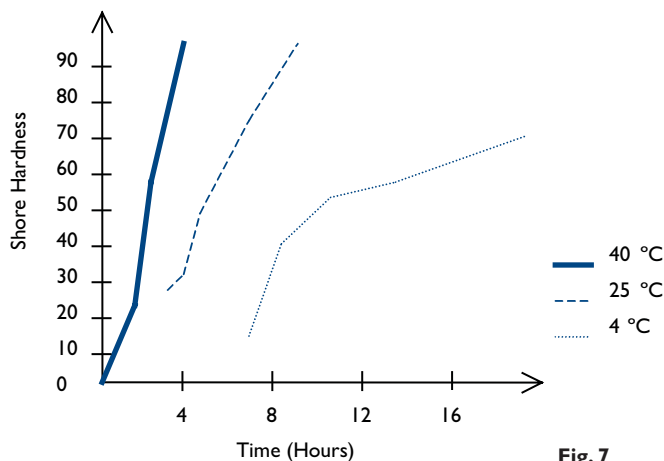

Fig. 7
See Notes overleaf and Fig. 7 for compound preparation.
G Allow the compound to cure. (See Fig. 7 for curing times). Untighten the backnut ① from the entry ⑤ to enable inspection. The rubber pot ④ may be removed for inspection to ensure that the compound packing is satisfactory. Add further compound if necessary.